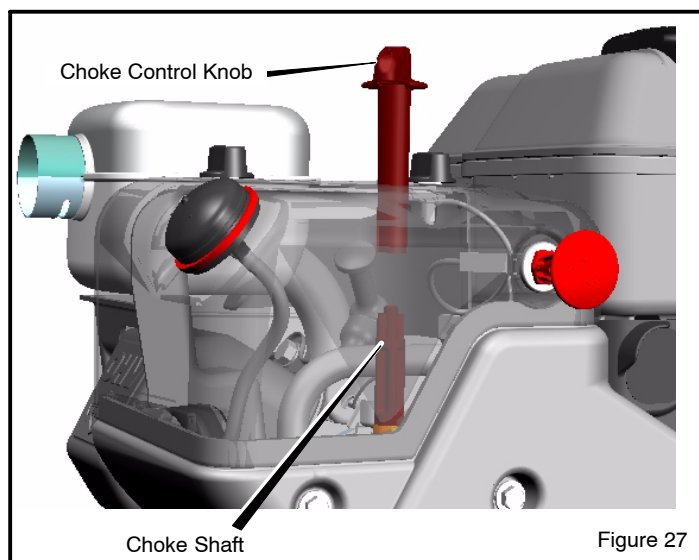
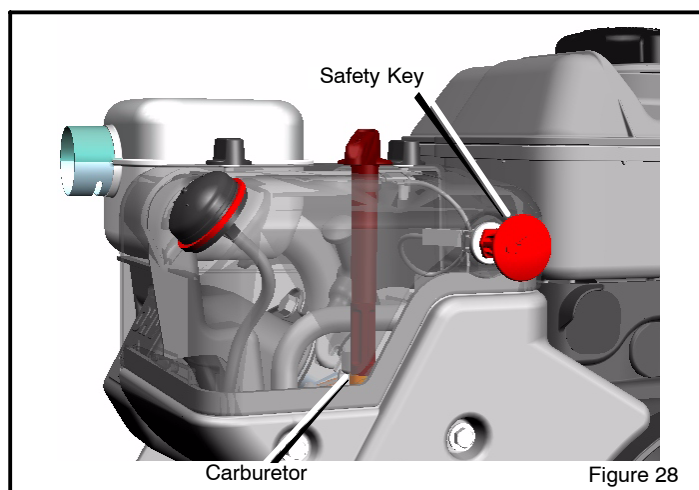

Figure 27
Figure 28
8. Connect the choke control knob with the choke shaft on the carburetor (see Figure 27 and Figure 28). Make sure the choke control knob is properly installed. If the choke control knob is not installed correctly, the choke will not operate.